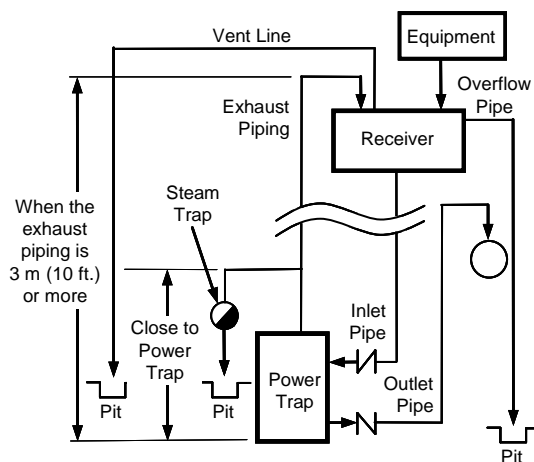

Figure 1: Open Systems
(4) Exhaust Piping:
- For Open Systems only:** Add a float-type steam trap to the exhaust pipe at a point just above where the exhaust pipe exits the unit body. (Figure 1)